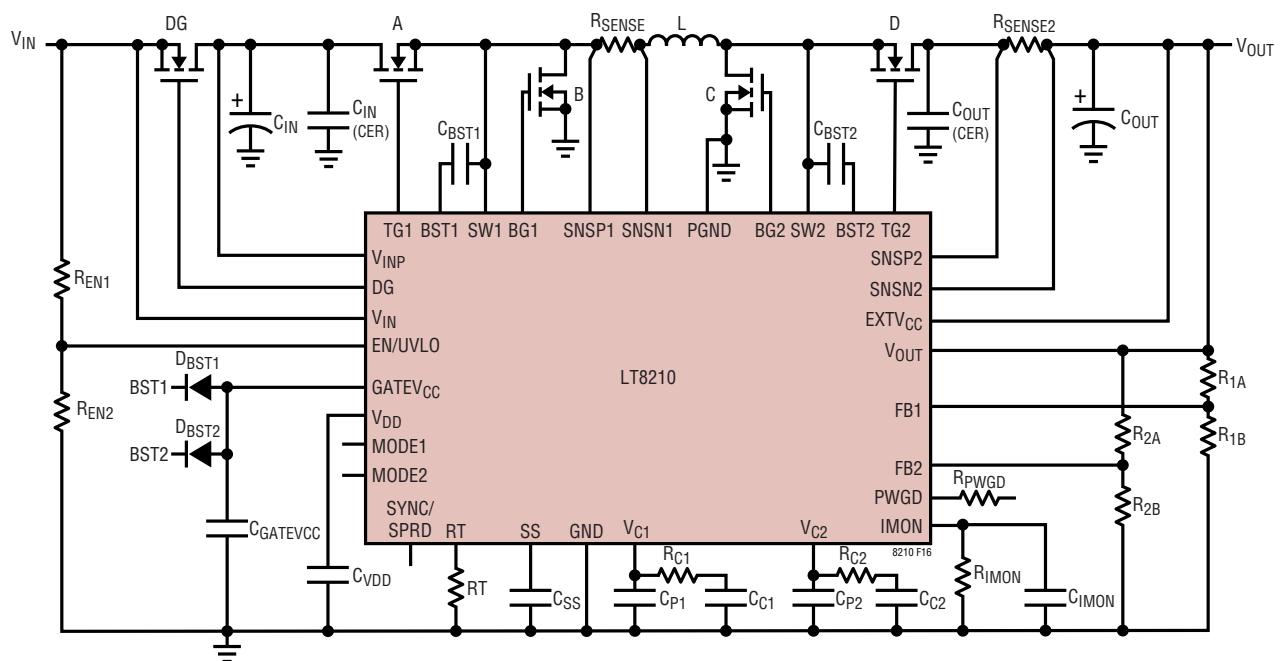
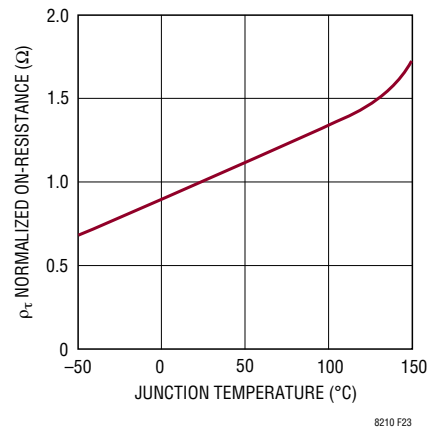

Figure 16. Basic LT8210 Applications Circuit
Figure 23. Normalized $R_{DS(ON)}$ vs Temperature
The Applications Information section serves as a guideline for selecting external components based on the details of the application. For this section please refer to the basic LT8210 application circuit shown in Figure 16. Component selection typically follows the approach described below:
The LT8210 requires four external N-channel power MOSFETs (switches A, B, C, D in Figure 16). The gate drive voltage of the LT8210 is typically greater than 10V allowing the use of both logic-level and standard-level threshold devices. The MOSFET maximum $V_{BR(DSS)}$ and drain current (I_D) ratings should exceed worst-case voltage and current conditions of the application with added margin for safety. The maximum continuous drain current of a power MOSFET is de-rated as a function of temperature with that information commonly available in the data sheet. It is important to consider power dissipation when selecting power MOSFETs. The most efficient circuit will use MOSFETs that dissipate the least amount of power. Dissipated power and the resulting temperature rise in external components will set the upper bound on the power that can be delivered by the LT8210. MOSFET power dissipation comes from two primary components: (1) I^2R conduction losses when the switch is fully turned “on” and drain current is flowing, and (2) power dissipated while the switch is turning “on” or “off”. Conduction losses are independent of frequency. Switching losses, on the other hand, scale with frequency and voltage. Generally speaking, conduction losses are dominant at higher currents and lower voltages, whereas switching losses tend to dominate at lower currents and higher voltages. Accurately predicting MOSFET power dissipation is a complex problem that is best suited to efficiency calculators such as that included in LTpowerCAD® II. That being said, efficiency calculators are no substitute for real world measurements. The following section provides approximations of the main source(s) of power dissipation for switches A, B, C, and D as a function of the input and output voltages and switching region. The purpose is to guide MOSFET selection by determining where the majority of power is being dissipated. In the following equations ρ_τ is a normalization factor (unity at 25°C) accounting for the significant variation in on-resistance with temperature, typically 0.4%/°C as shown in Figure 23. For a maximum junction temperature of 125°C, using a value of $\rho_\tau = 1.5$ is reasonable. Q_{SW} is the switching charge and can be approximated as $Q_{SW} = Q_{GD} + Q_{GS}/2$ if not explicitly stated in the MOSFET data sheet.